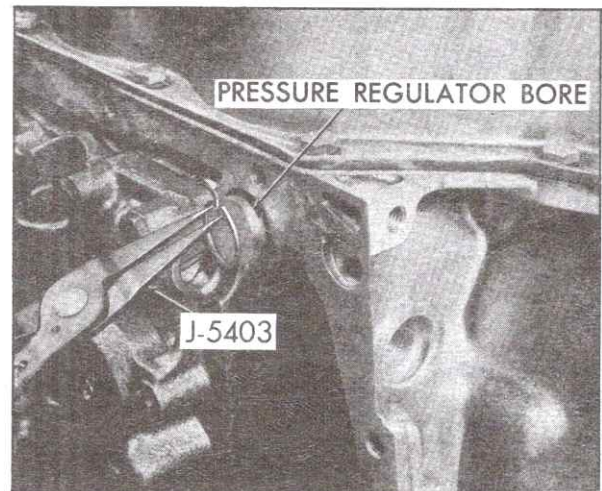

Fig. 7-141 Removing Pressure Regulator Valve
1. Compress regulator boost valve bushing against pressure regulator spring and remove snap ring using Snap Ring Pliers, J-5403 (#21), Fig. 7-141.